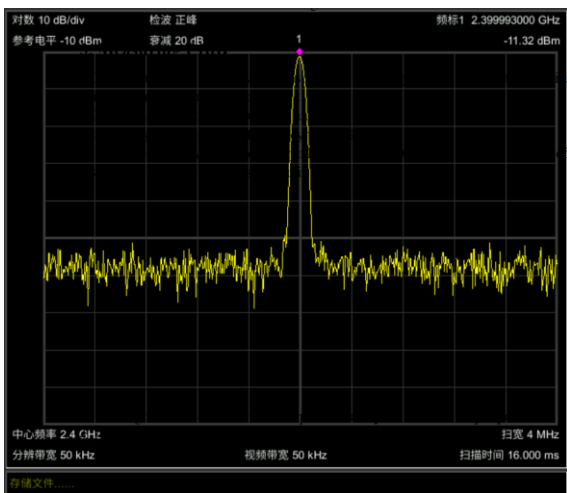

Fig. 1. Screenshot of the spectrum analyzer at -20dB output power.
3. Adjust the output power of the TPI synthesizer from -20 dBm to 10 dBm in 1 dBm increments. The spectrum display is shown in Fig. 1.